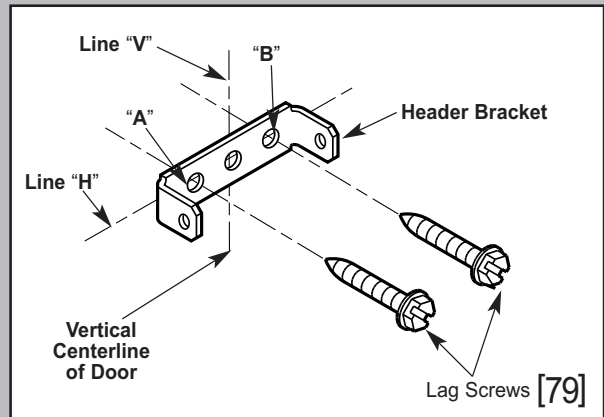
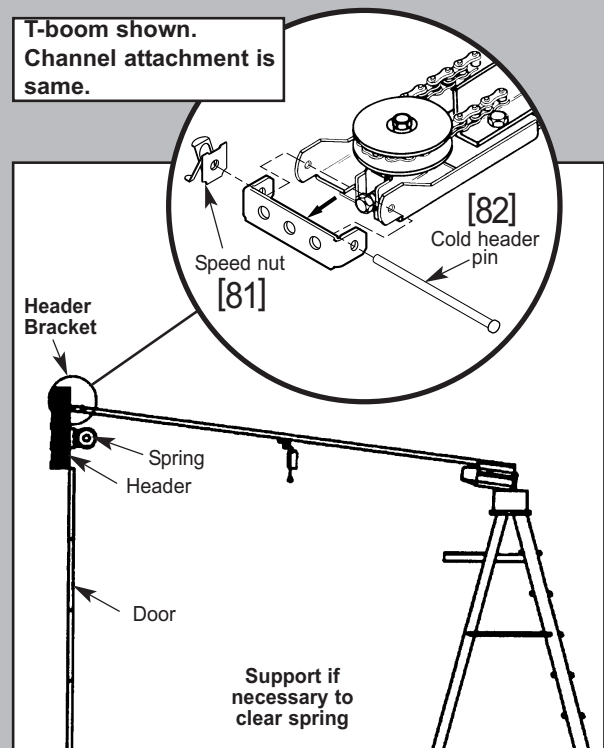

Fig. 2-3
Fig. 2-4
**3. Install header bracket (Fig. 2-3)**
- Fasten bracket to header using two (2) 1/4" x 2" lag screws [79].
**4. Attach channel/boom assembly to header bracket (Fig. 2-4).**